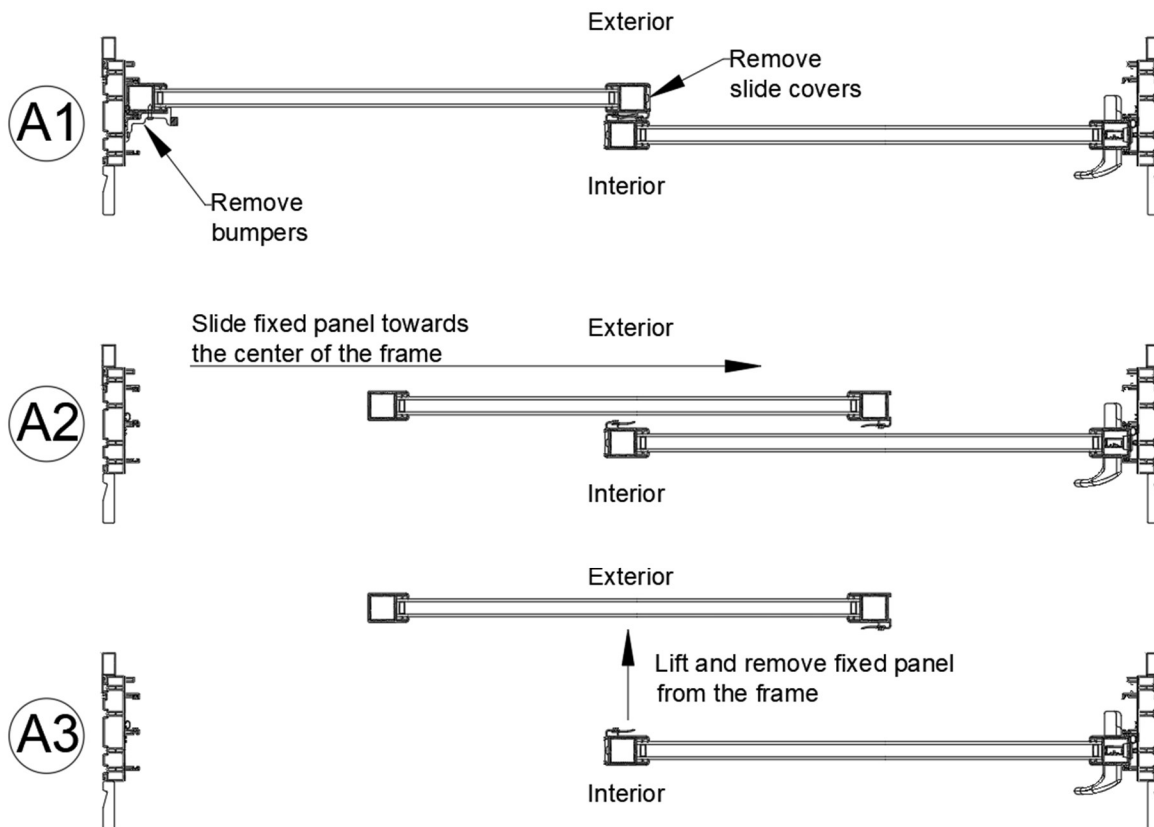

Figure 1
1.1 To remove the fixed panel, remove the slide covers located at the top and bottom of interlock and bumpers located at the top and bottom of the frame and fixed panel. Push the fixed panel securely from the jamb. Lift the panel and pull it out of the frame; the bottom part of the panel should come out first (Figure 1).